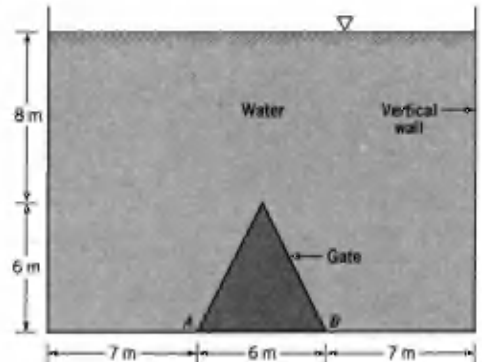

FIGURE P2.10R
2.10R (Force on plane surface) A gate having the triangular shape shown in Fig. P2.10R is located in the vertical side of an open tank. The gate is hinged about the horizontal axis  $AB$ . The force of the water on the gate creates a moment with respect to the axis  $AB$ . Determine the magnitude of this moment.